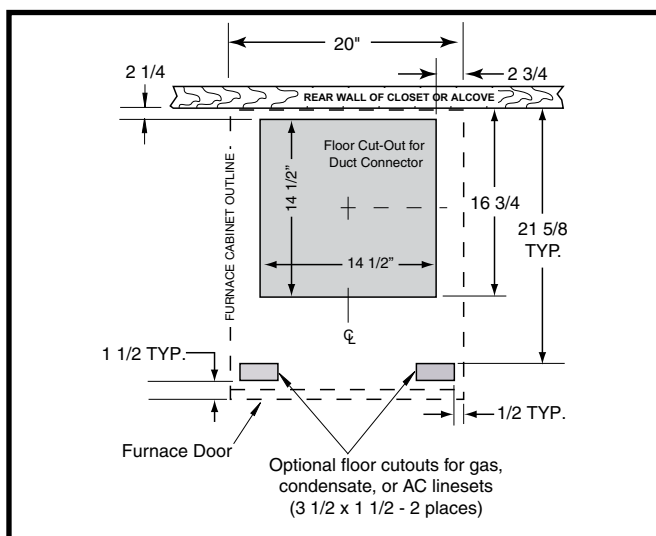
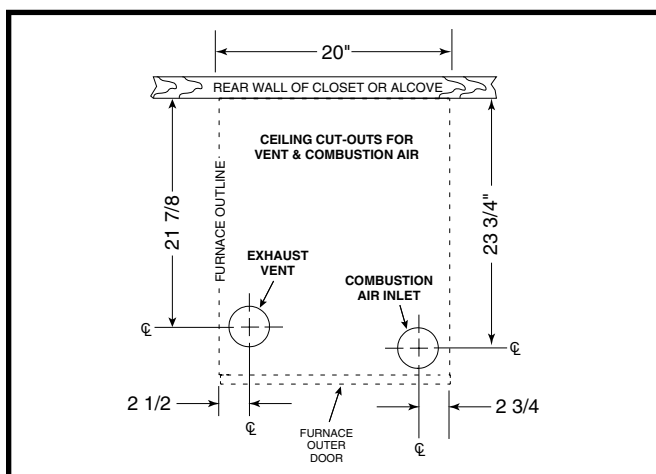

Figure 9. Floor Cutout Dimensions
Figure 10. Ceiling Cut-Out Dimensions
To locate standard ducts, see Figure 9. For round ducts, see Figure 10.
1. Measure from the rear wall or alcove and mark the centerline of the cut-out on the floor. Using the centerline as a starting point, draw the rest of the duct cut-out to the dimensions shown in Figure 9.
5. Measure and drill gas hole and cut out for cooling coil (if applicable). See Figure 9 or Figure 10.
Cut-outs in the ceiling and roof must be carefully located to avoid misalignment of the furnace, combustion air piping, and vent piping. See Figure 10.
2. Using the centerlines as a starting point, draw the rest of the cut-outs to the dimensions shown in Figure 10.